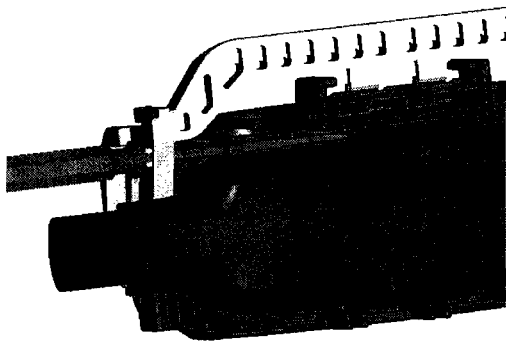

Figure 8-5B
2. Push tool between wire shield lock and the lock on the connector as shown in Figure 8-5B until wire shield lock clears the ramp on the connector.